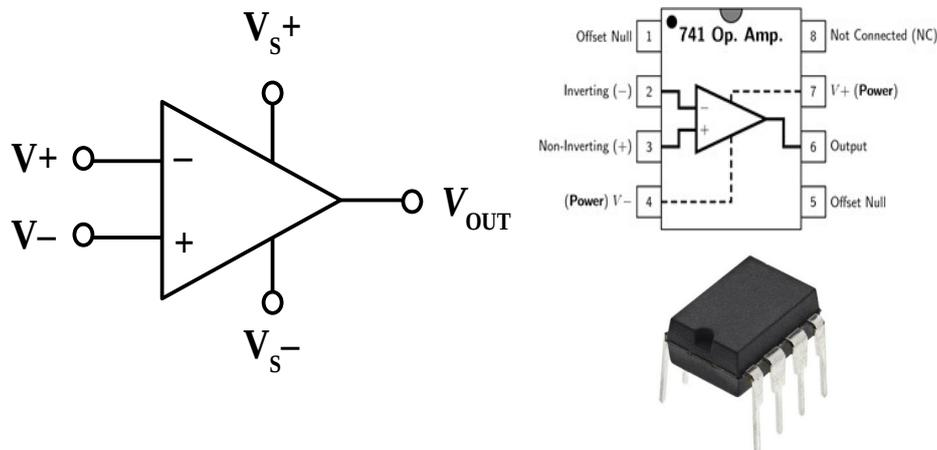

Figure 25: Operational Amplifier (op-amp)
An operational amplifier (op-amp), illustrated in Figure 25, is a Direct Current (DC)-coupled high-gain electronic voltage amplifier with a differential input and, usually, a single-ended output. An op-amp produces an output potential (relative to circuit ground) that is typically 100,000 times larger than the potential difference between its input terminals. Op-amps have their origins in analogue computers, where they were used to perform mathematical operations in linear, non-linear, and frequency-dependent circuits.